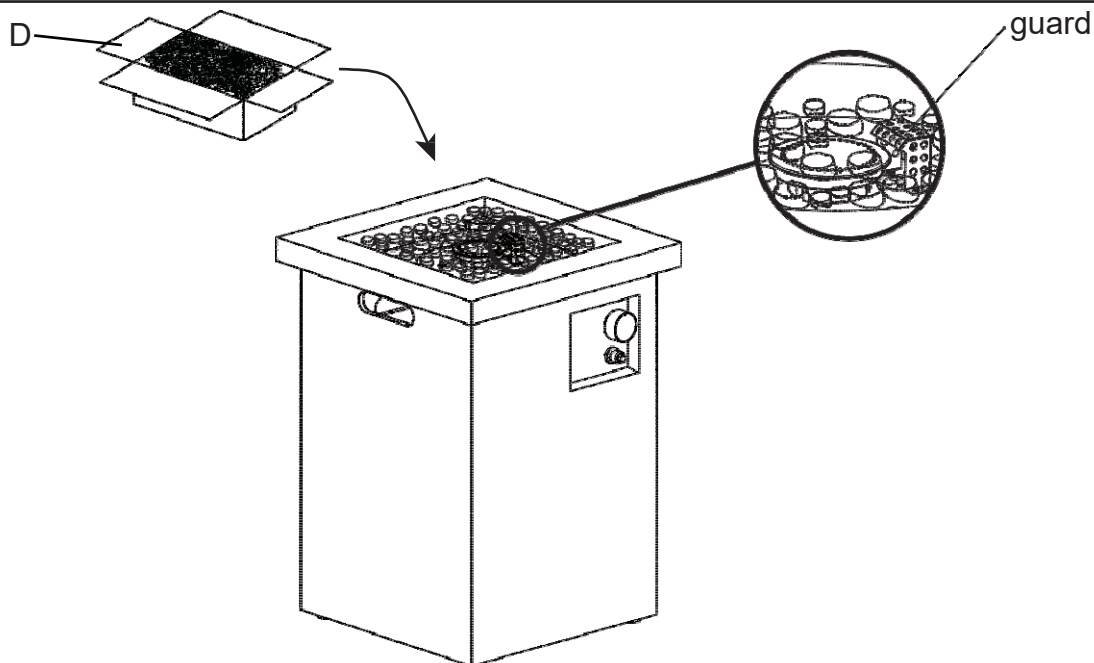

Figure 3
6. Open the box of lava rocks, put the lava rocks (D) into the fire bowl of the fire pit body (A) (see Figure 3).